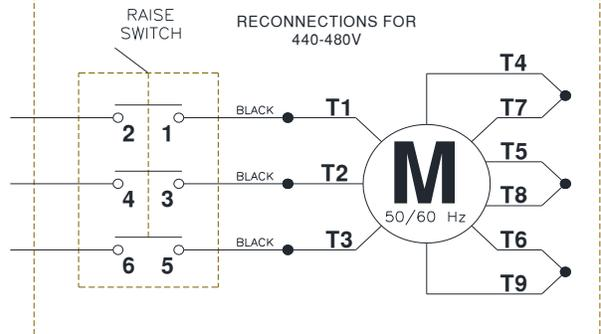

Fig. 13 – Electrical Wiring Diagram
- 39) Refer to **Fig 13 Wiring Diagram** for all steps under this heading.